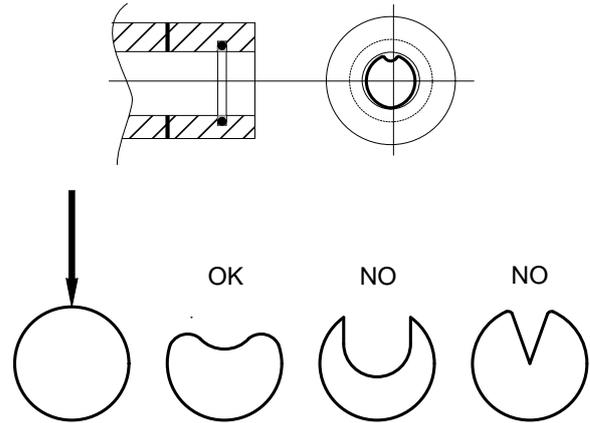

Fig. 4.2
4.04) First fit the O-ring back in its seat and then the seal ring **pos.75** making the O-ring adhere perfectly using a blunt tool. To make it easier to insert the ring, follow the instructions in **fig.4.2**.
5.07) First fit the O-ring back in its seat and then the seal ring **pos.72** making the O-ring adhere perfectly using a blunt tool. To make it easier to insert the ring, follow the instructions in **fig.4.2. pag. 16**.